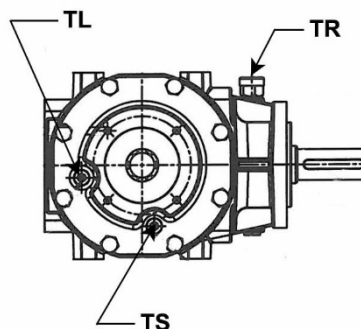

Fig. 9
- To check the oil level in the gearbox (refer to Fig. 9):
- To replace the oil in the cast iron gearbox (refer to Fig. 9):